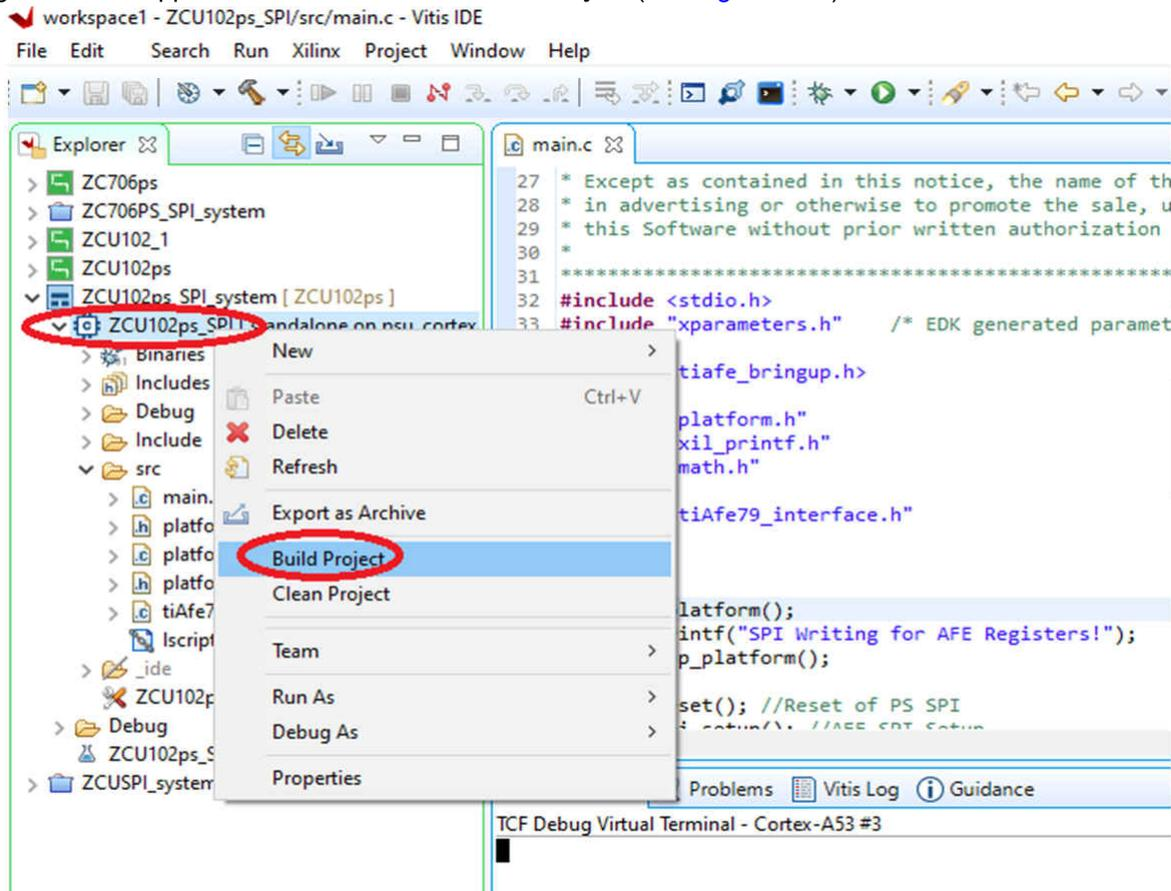

Figure 10-1. Building Project
1. Right-click the application name and select *Build Project* (see Figure 10-1).